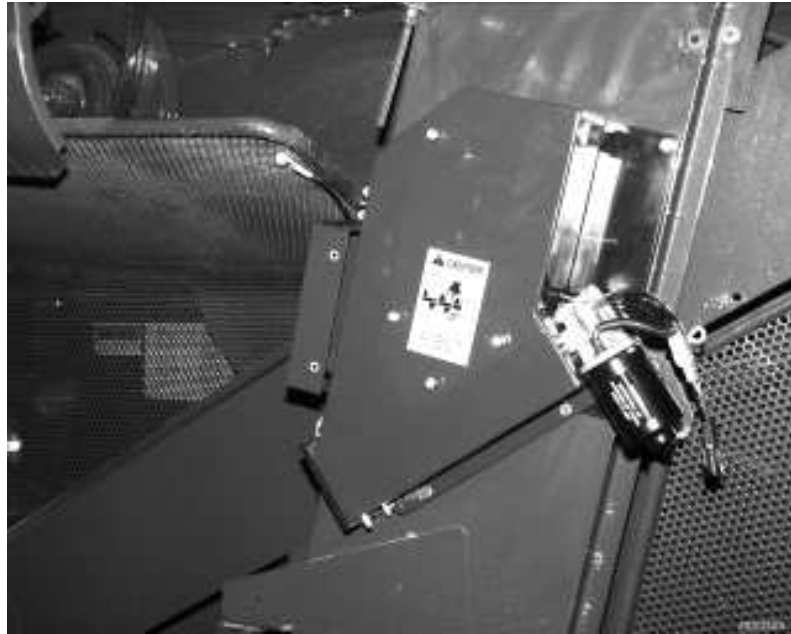

Figure 19. Completed installation
9. Insert 1/4 in. x 1 in. slotted pan head screws into (4) mounting holes. Install hex nuts on pan head screws to secure them to elevator.
11. Install electrical cover if not already done. Completed installation should look like Figure 19.